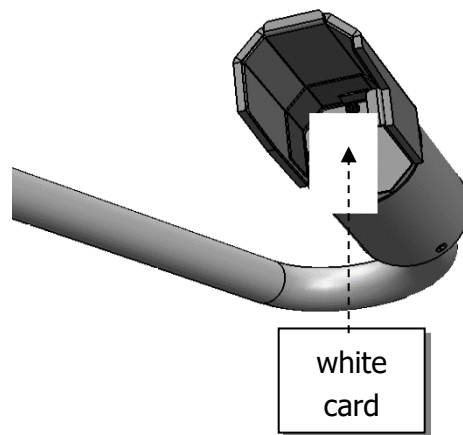

Figure 4-2 Transmitter Hood with White Card
Step 4. Insert a white card (or paper) in the transmitter hood that blocks and almost touches the window (see Figure 4-2 Transmitter Hood with White Card).
Step 5. Insert a white card in the forward (or back) scatter receiver hood that blocks the window, and almost touches it (similar to Figure 4-2 Transmitter Hood with White Card).